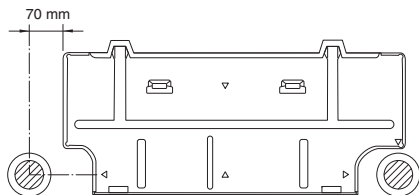

Fig. 3-34
- Determine which side of the unit you should make the hole for tubing and wiring. (Fig. 3-34)
In the case of left-rear tubing, use the measurement points from the edge of the rear panel for precise placement of the hose outlet. (Fig. 3-34)